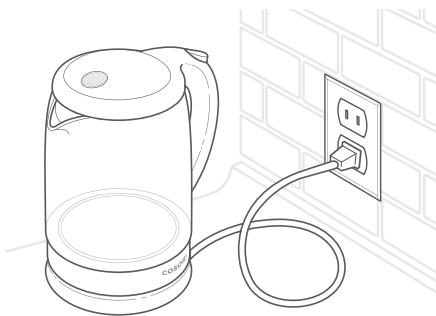

Figure 2.2
3. Close the lid and place the kettle on the power base and plug in. [Figure 2.2]